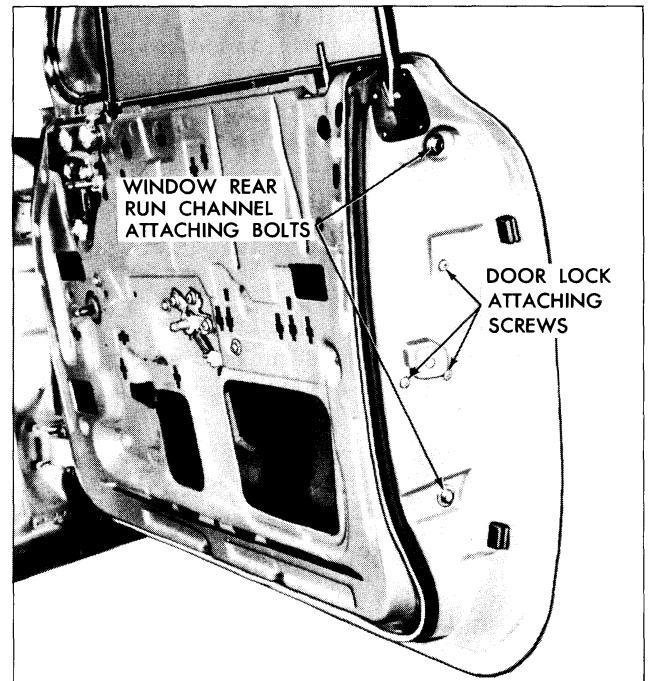

Fig. 3-25 Front Door Lock Pillar
5. Remove door lock attaching screws from lock pillar facing of door and remove lock assembly from door (Fig. 3-25).